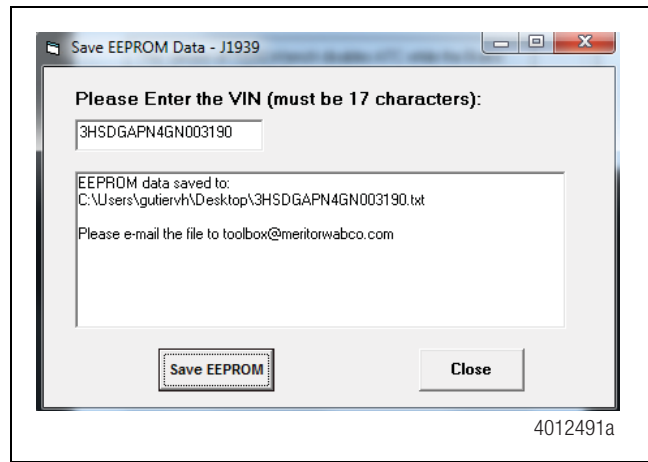

Figure 7
6. As indicated in the message, open an email program, attach the parameter file (xxxxxxxxxxxxxxxx.txt with the VIN as the filename) and send the email to toolbox@wabco-na.com. Figure 7.